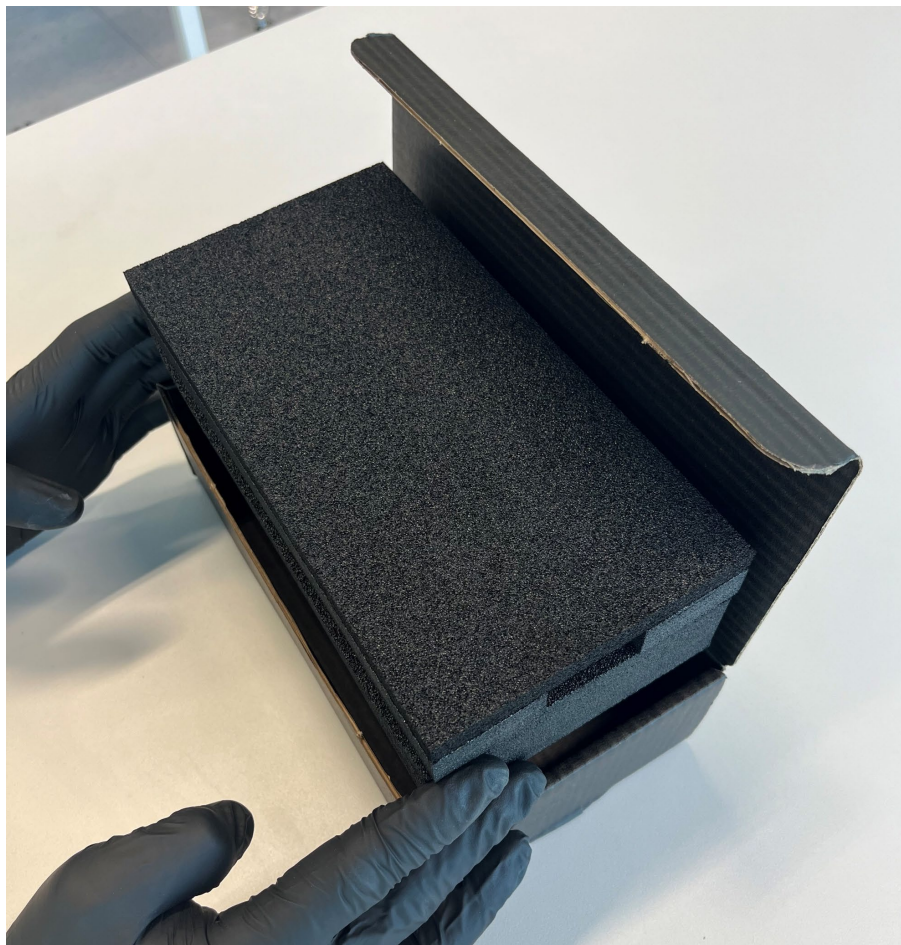
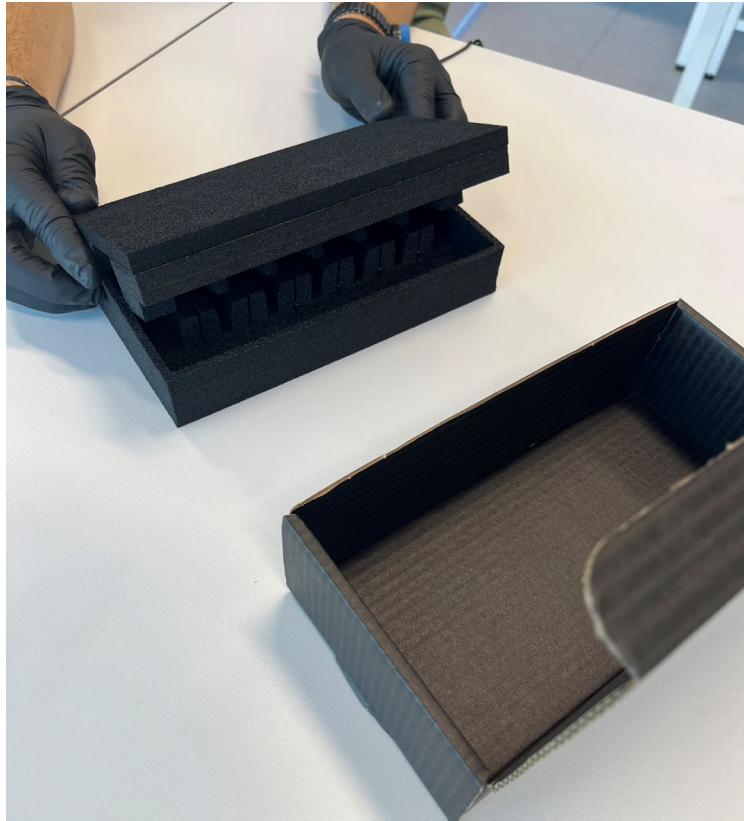

Figure 38: Removing the probes in the foam from the carton shipping box.
Figure 39: Removing the foam from the carton box and lifting the top foam.
- Remove the complete foam from the carton box (Figure 38 and Figure 39).
- Carefully lift the top foam from the bottom foam, which contains the probes (Figure 39).